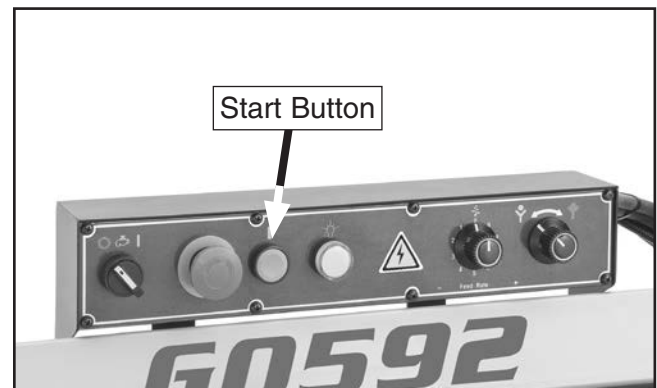

Figure 20. Location of Start button.
7. Press Start button to turn machine **ON** (see **Figure 20**).